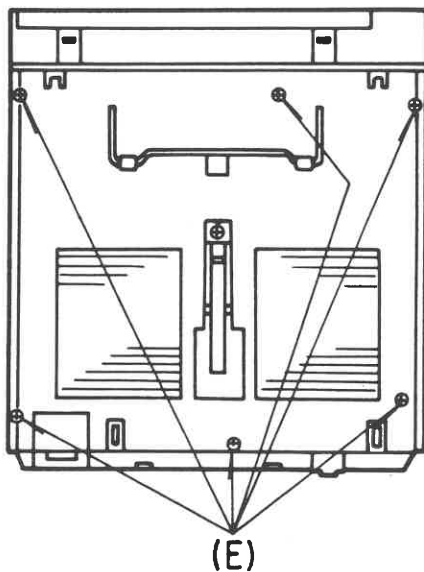

Figure 3
5. Remove 6 screws (E) from the bottom cabinet. (See figure 3)